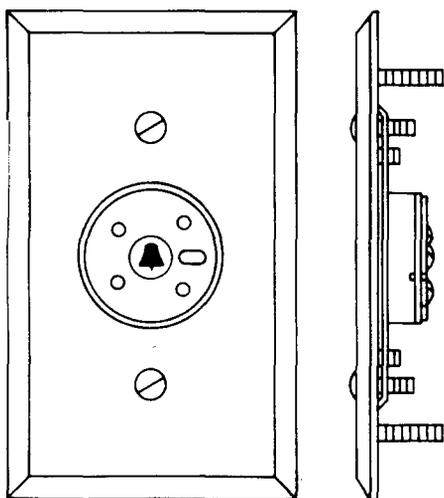

Fig. 1—550-Type Jack
2.01 **550A-49, 550A-50, and 550A-54:** These flush-type jacks (Fig. 1) consist of a 548A-type jack, a 43B bracket, and a flush-type coverplate arranged for mounting in a standard electrical outlet box. These 550A-type jacks are associated with the 283B-type plug and this plug can only be inserted in one position. These jacks are used with portable telephone sets having two, three, or four conductor mounting cords.